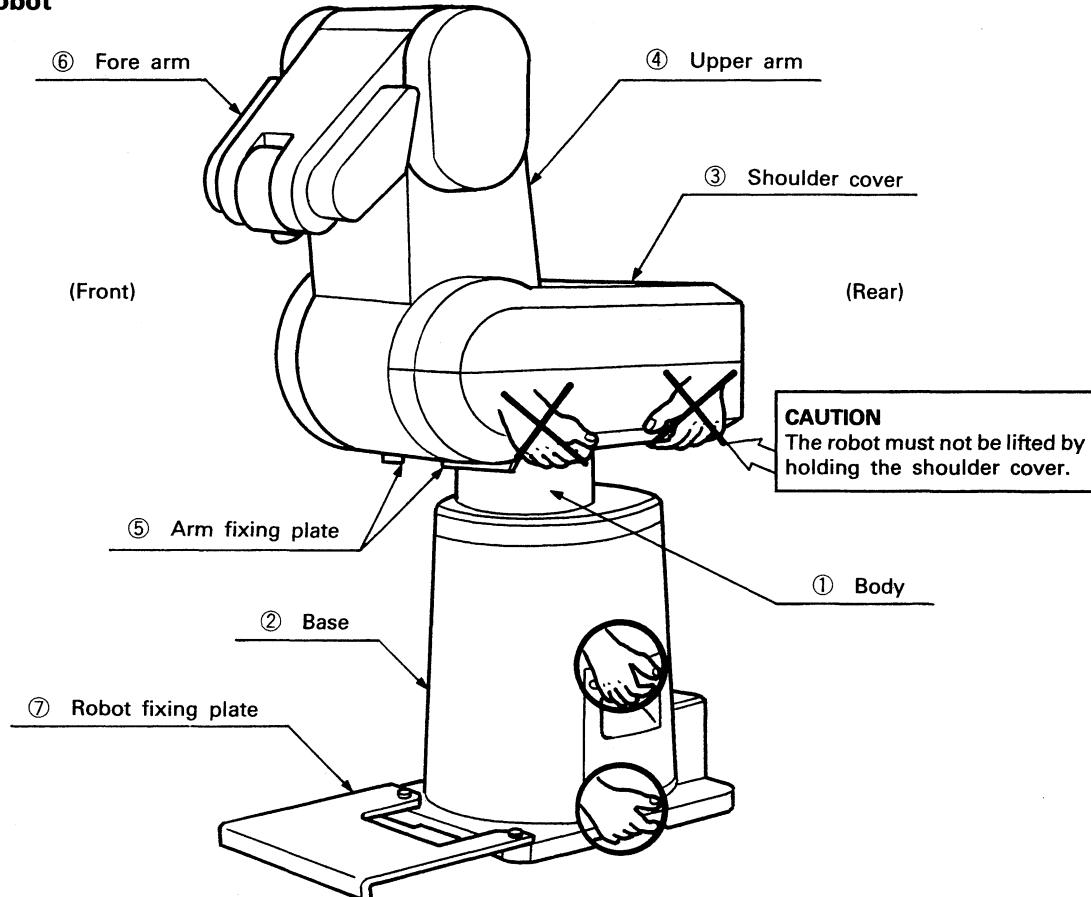

Fig. 2.1.1 Transporting the Robot
- (1) Fig. 2.1.1 shows the locations to be held by hands when transporting the robot.
- (2) Before transporting the robot, release the brakes in accordance with Section 2.2.4, Vol. 2, move the upper arm ④ in the positive direction and the fore arm ⑥ in the negative direction until they are pressed against the corresponding stoppers as shown in Fig. 2.1.1, and install the arm fixing plate ⑤ to the upper arm ④ and body ①. Also install the robot fixing plate ⑦ to the base ②.
- (3) Transport the robot by holding the grips of the base ② as shown in Fig. 2.1.1 and supporting the arm with your body on the front side of the robot.
- (4) Never carry the robot on the rear side or hold the sides or back of the shoulder cover ③ to prevent any accident, e.g. the robot may fall down or the covers may be damaged or drop.
- (5) Before transporting the robot, the arm fixing plate and robot fixing plate must be installed in the attitude shown in Fig. 2.1.1.
- (6) The above (2) applies to transportation of the other equipment where the robot has been installed. (At this time, the robot fixing plate need not be installed.)
- (6) After the installation is complete, remove the arm fixing plate shown in Fig. 2.1.1. When the robot is transported as installed on a surface plate, the arm fixing plate must be kept fit on the robot until the robot is finally installed.